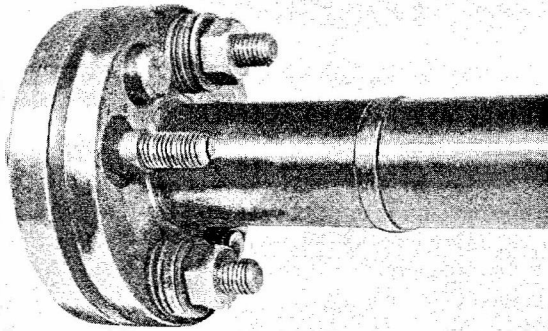

Fig. 1
2. Remove the steering gear post from the jacket assembly. Assemble the old steering gear shaft flange to the post using a new lower rubber insulator between the two flanges. Be sure that the "T" marks on the steering post flange, the steering gear flange and the rubber insulator are aligned before assembly. Using sufficient quantity of flat washers (5/16 x 9/16) so that the two flanges can be secured together, install and tighten the nuts on two of the flange studs (see Fig. 1).